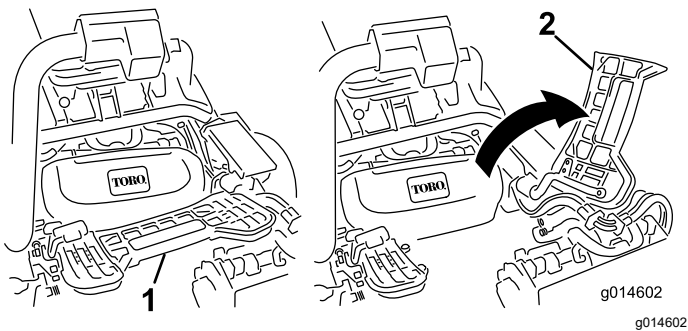

Figure 55
2. Lift up on the foot rest and swing it open, allowing access to the center cutting unit position (Figure 55).